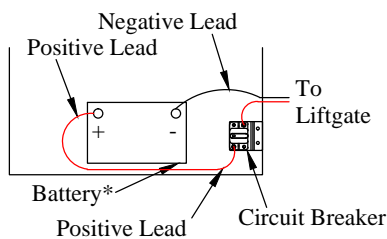

Figure 14: Circuit breaker bracket.
1. **Install** the circuit breaker on the circuit breaker bracket with 1/4" screws and nuts (Figure 14).
1. **Install** the two (2) mounting angle irons to the bottom of the liftgate (Figure 14).